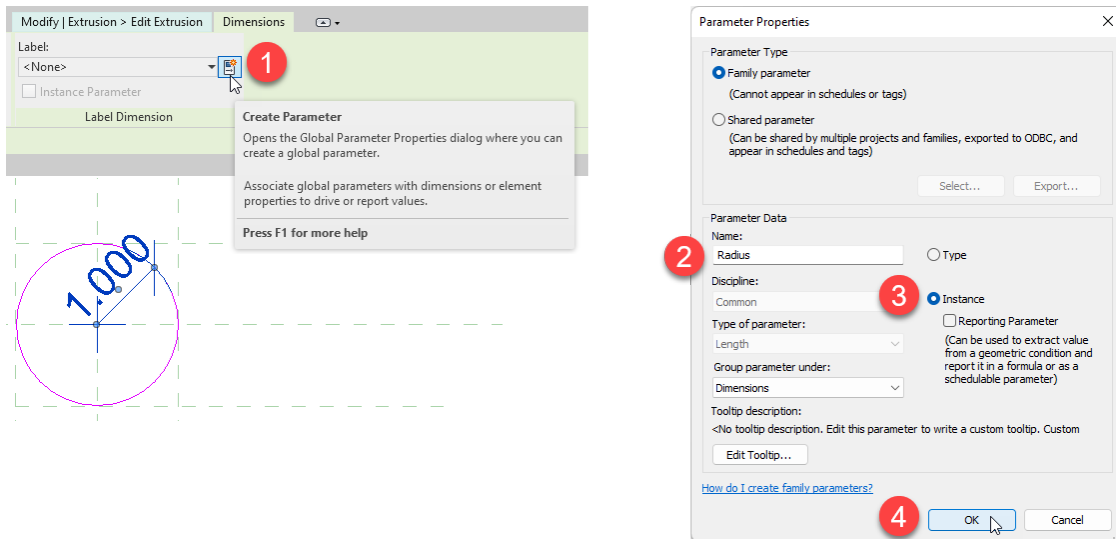

Figure 4—Create a Radius parameter and label the dimension with it
7. Label this dimension with a new instance based parameter and call it: **Radius** (See Figure 4).